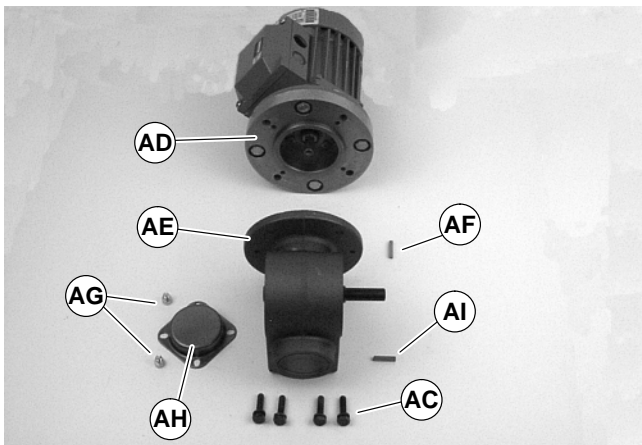

Figure 20
- Remove four screws (AC of Figure 20). Detach motor (AD) from gear reducer (AE). Retain motor output shaft key (AF).
- With key (AF of Figure 20) in keyway, slide motor (AD) and gear reducer (AE) together. Install screws (AC) and tighten.